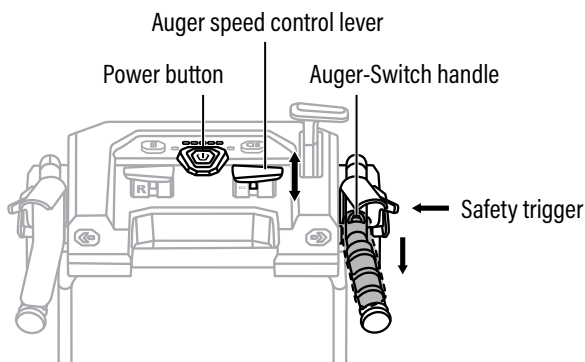

Fig. 6
3. Press the safety trigger inward, then press down the auger switch handle to engage the auger within 5 minutes. (Fig. 6)